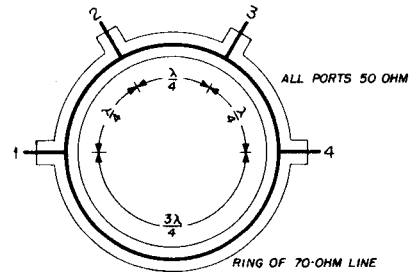

fig. 3. Coaxial rat race, or ring coupler. It can be used to balance similar sections of an antenna or as a balun.
3. The coaxial rat race (**fig. 3**). Sometimes called a 180° hybrid, this circuit may be used as part of a balanced modulator or to match or balance two equal loads (as in combining equal sections of an antenna array).
The standard form of the 50-ohm rat race, or ring coupler, is shown in fig. 3. It consists of a closed loop of 70-ohm line with a circumference of three 1/2 wavelengths. The four ports are located 1/4 wavelength apart, with first and fourth ports connected by a 3/4-wavelength line.